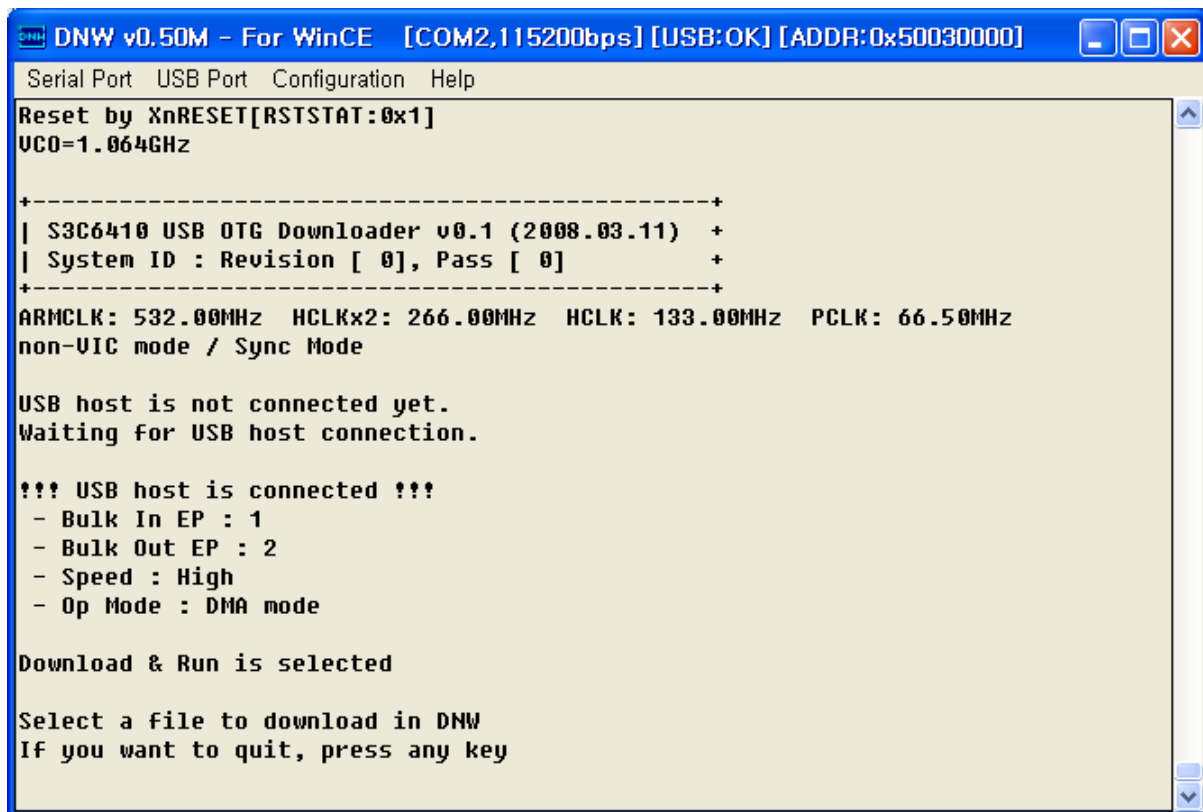

Figure 6-20 DNW Window after reset
23. Reset the board. DNW window appears as shown in figure 6-20.